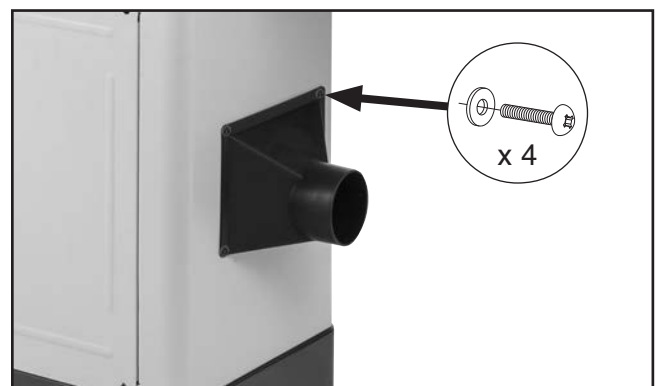

Figure 28. Dust port installed.
26. Install dust port as shown in **Figure 28**, using (4) M5-.8 x 10 Phillips head screws and (4) 5mm flat washers.